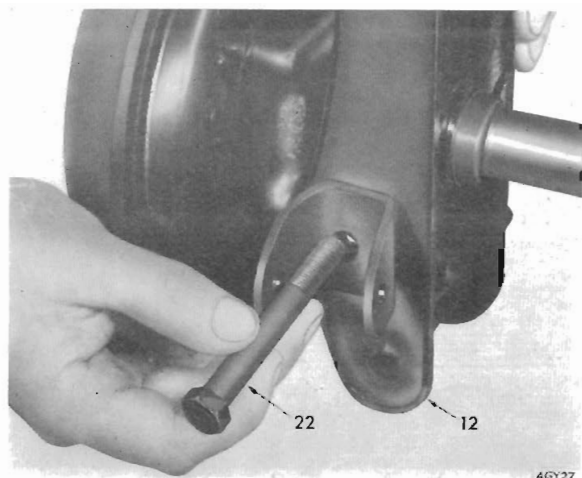
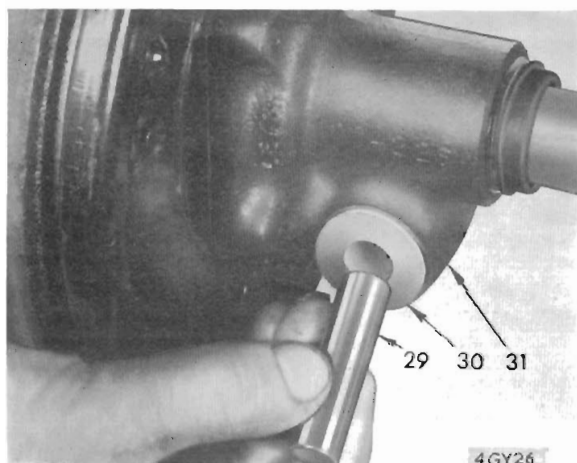

Fig. 57. Removing trunion housing pivot bolt
Fig. 58. Removing steel bush from nylon bushes in trunion housing
5. Remove the bolt (22), Fig. 57, and withdraw the vertical link (12) from the trunion housing (31). Remove the steel bush (29), Fig. 58.